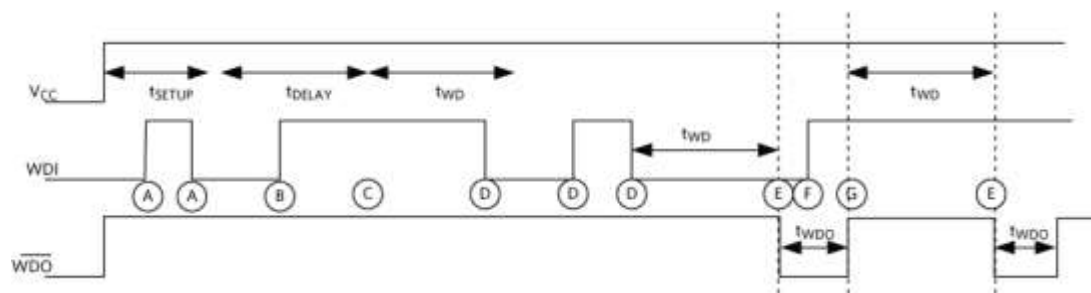
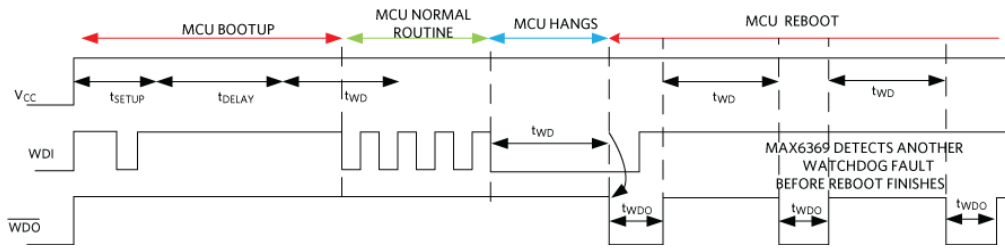

Figure 2. Timing diagram of MAX6369.
Figure 3. Deadlock condition in the MCU.
**Figure 2** is the timing diagram of the MAX6369–MAX6374. The MCU starts its bootup after the device power-up. The MAX6369 ignores any WDI violation for  $t_{\text{SETUP}} + t_{\text{DELAY}}$ , which is longer than the bootup process. The MCU, after the bootup process, starts toggling the WDI pulse before the  $t_{\text{WD}}$  time expires.
The MAX6369-MAX6374 starts monitoring the MCU activity after the bootup process is finished. The watchdog timer detects the MCU watchdog fault if the MCU is unable to toggle the WDI pulse before the  $t_{\text{WD}}$  time expires (**Figure 2**). The watchdog fault reboots the MCU. If the system reboot time is more than  $t_{\text{WD}}$ , the MAX6369 toggles the WDO repeatedly before the reboot process finishes. This hangs the MCU forever. **Figure 3** shows a similar deadlock condition.
The deadlock problem in Figure 3 is solved by providing extra setup delay ( $t_{DELAY}$ ) to the MAX6369–MAX6374 every time it detects a watchdog fault.